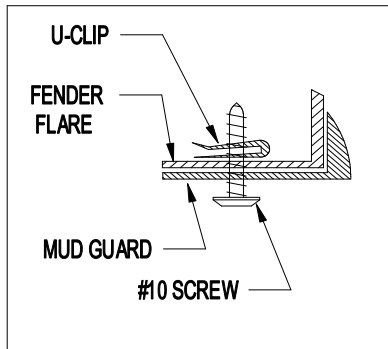

Figure 2
6. Install a #10 screw through location B and into a U-clip on the backside of the fender flare (Figure 2).